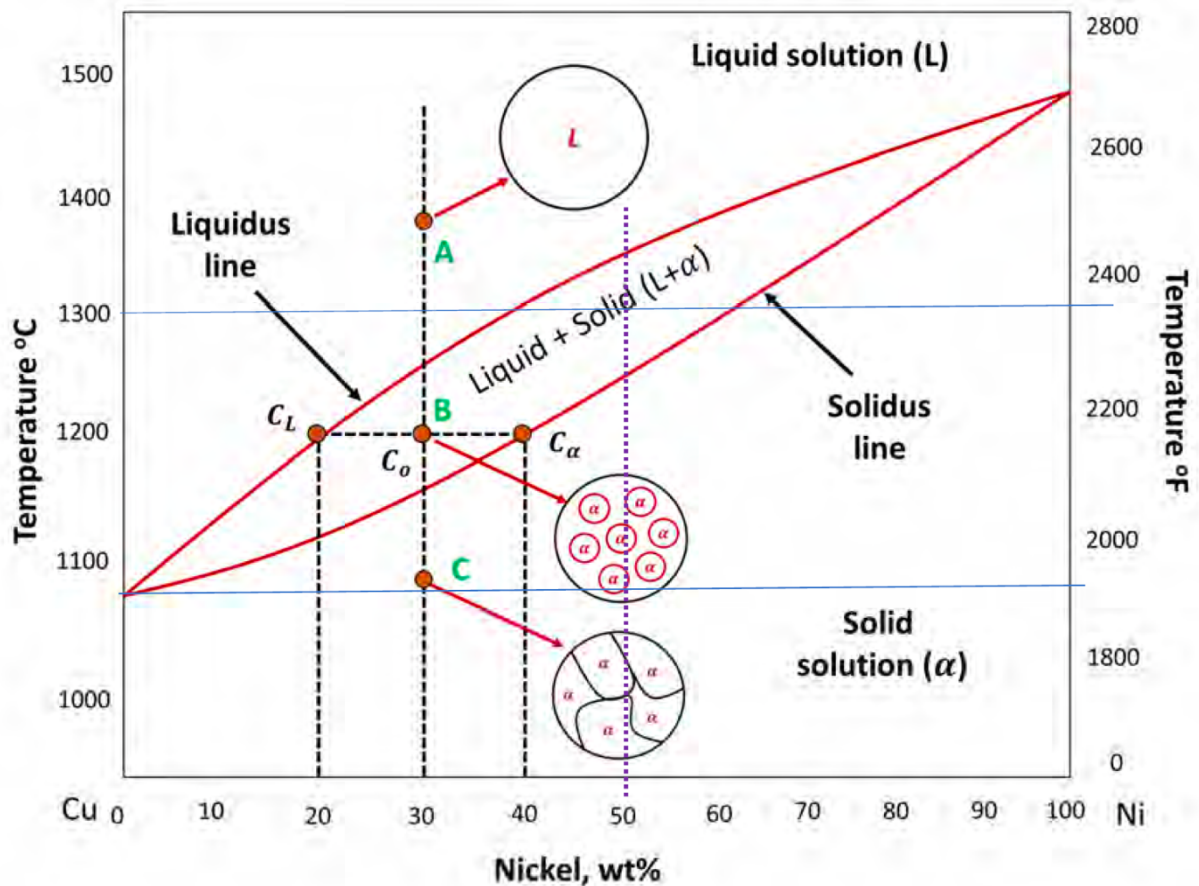

Fig 2.8: Copper-nickel phase diagram
DIAGRAM REFERENCE: FIG. 2.8 - COPPER-NICKEL (CU-NI) PHASE DIAGRAM.
- **EXAMPLE (FIG 2.8):** 30WT%NI-70WT%CU ALLOY.
- At 1315°C (Point A): In Liquid (L) field → **All Liquid**
- **EXAMPLE (FIG 2.8, POINT B):** FOR 30%NI ALLOY AT 1190°C.
- **(1) Compositions:** From tie line in Fig 2.8:
- Liquid Phase (L) contains **62% Cu**
- **(2) Amounts:** Using lever rule on Ni composition: